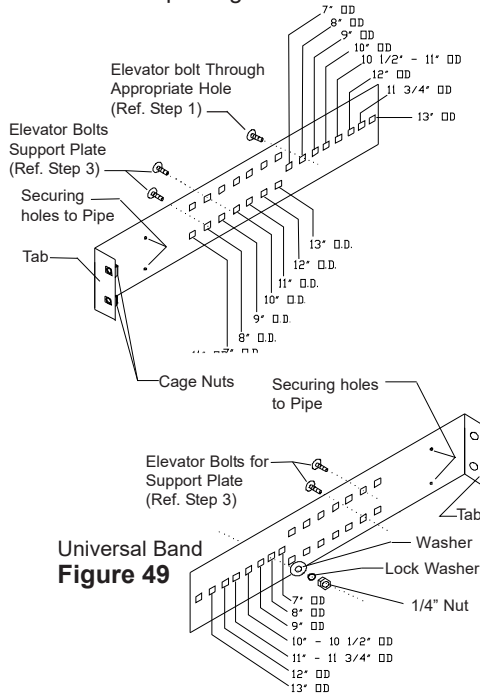

Figure 49
1. Place the two halves of the URSA Band as shown in Figure 49. Insert elevator bolt through the hole in the single row of holes identified with the outside diameter of the chimney being installed, (Ex. - for an 8" OD chimney, place the elevator bolt through the holes identified for 8" OD). The flat head of the bolt should be oriented opposite the direction the formed tabs are pointed. Secure the center bolt with washers and nut (see Figure 49). NOTE: On smaller diameter the excess band material can be cut off.
5. Secure URSA to the length of pipe by using four (4) 1/8" x 1/2" stainless steel self-tapping screws (provided) through the 2 securing holes found closest to the tabs on the band (see Figure 49).